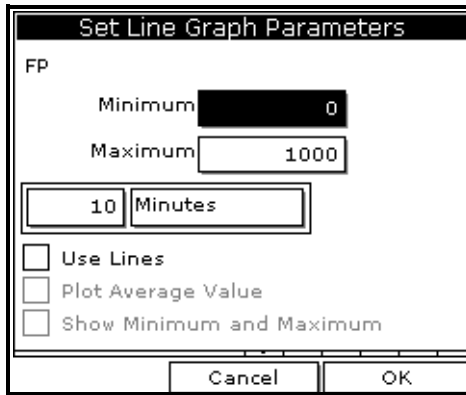

Figure 17: Line Graph Parameters Window
2. Use the arrow keys to scroll to Limits and press [ENTER]. A screen similar to Figure 17 appears